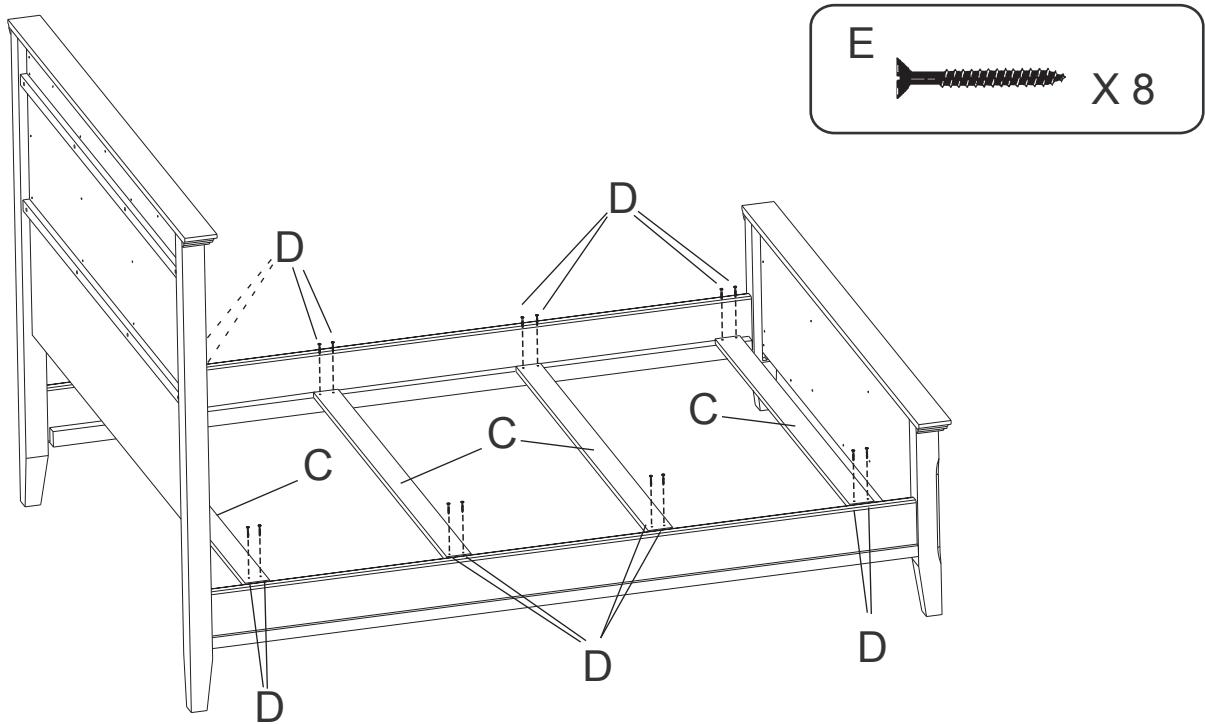

Fig. 2
2. Attach Footboard (B) to Rails as shown in Figure 2.